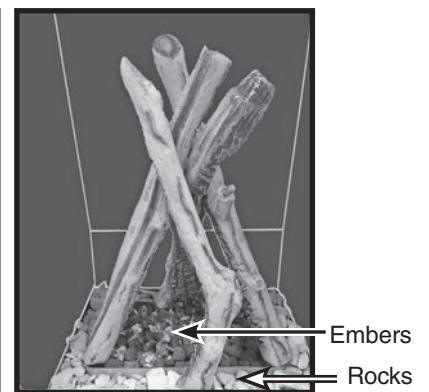

Figure 46: Log 4.
The Driftwood log-set with pebbles requires that any crushed glass media be removed if it is present. The pebbles are spread out around the perimeter of the burner basket after which the glowing embers are evenly spread out inside of the burner basket - (Figure 46).
4. Interlock front log with left log to complete log set structure (Figure 46).